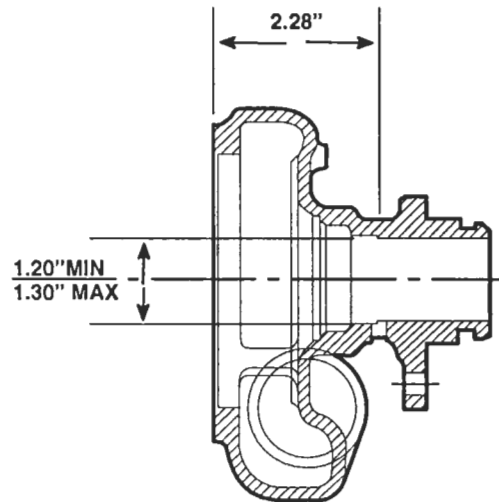

Figure 2. Pump Bearing Bore
1. Locate the center line of the pump bearing bore (Figure 2.)